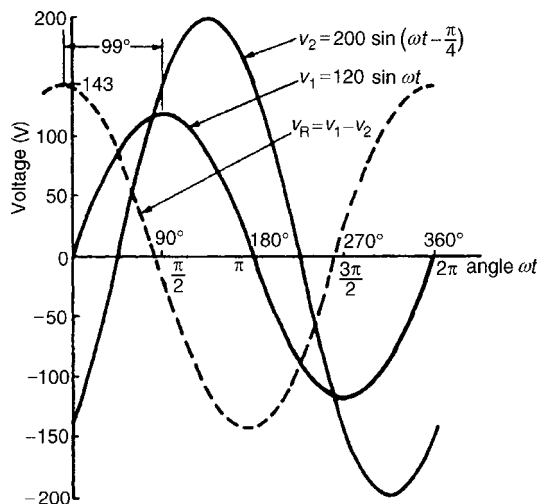

Figure 14.13
- (a) $v_1 = 120 \sin \omega t$ and $v_2 = 200 \sin(\omega t - \pi/4)$ are shown plotted in Fig. 14.13 Care must be taken when subtracting values of ordinates especially when at least one of the ordinates is negative. For example,
The resultant waveform, $v_R = v_1 - v_2$, is shown by the broken line in Fig. 14.13 The maximum